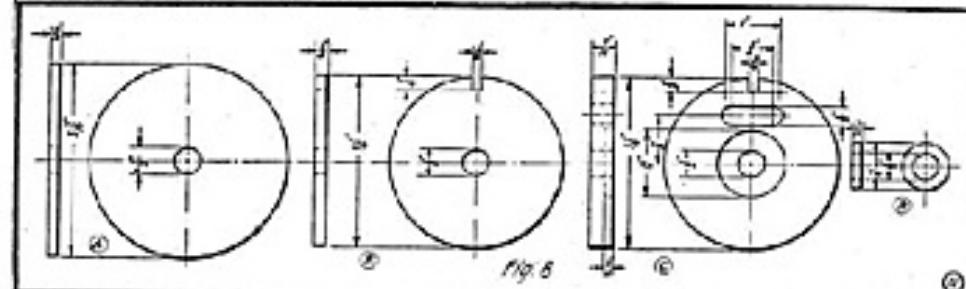

Fig. 8. End Discs of Secondary Coil.
Fig. 8 gives the size of these pieces. In turning them up, bore the $\frac{1}{2}$ -inch hole in the center first; then turn them on a wooden face plate which has a little mandrel to fit tightly in the hole. If the hole is not exactly in the center of the pieces the secondary will not be concentric with the primary. Take (A) first. After shellacking and rubbing it down fasten it in the left-hand end of the primary tube with strong glue. To fit properly in the box the end of the tube must be at right angles with its axis.
Now, when the case is put together, except the top (look at Figs. 2 and 3) to see where to fasten the slide tube. First put the primary, secondary and small end piece (D, Fig. 8) on the tube, with the coils in the center. Do not fasten the front on yet. Spread cold glue thinly on the primary end piece and the piece (D). Press them against the ends of the case, estimating the distances shown on the drawings. Quickly, before the glue can set, put two or three screws in the front—just enough to hold it in position. Take the rod which is to go through the screw eyes X on the end of the secondary and put it through the tube of the coupling adjust-